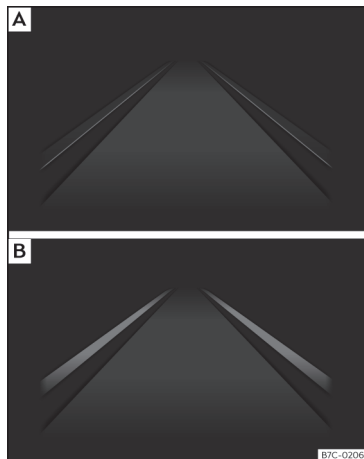

Fig. 218 On the instrument panel display: Indication on the Lane Assist system display (example 1). »
- **Fig. 218 [A]:** The system is active, but not available, either because the minimum speed has not been reached or because the lane lines are not recognised.
- **Fig. 218 [B]:** The system is active and available, both lane lines are recognised. The steering angle is not being corrected at this moment.